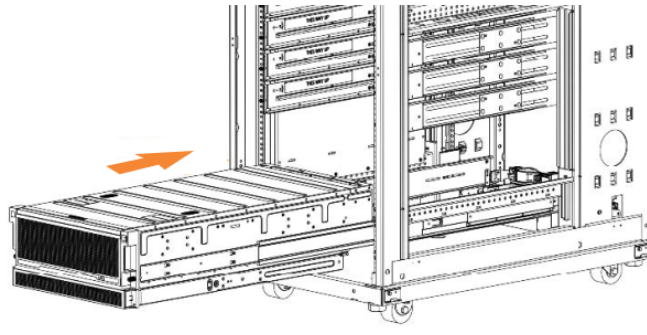

Figure 48. Example installation of the enclosure in the rack
- Install the expansion enclosure in the lowest position in the rack. Figure 48 on page 91 shows an example.